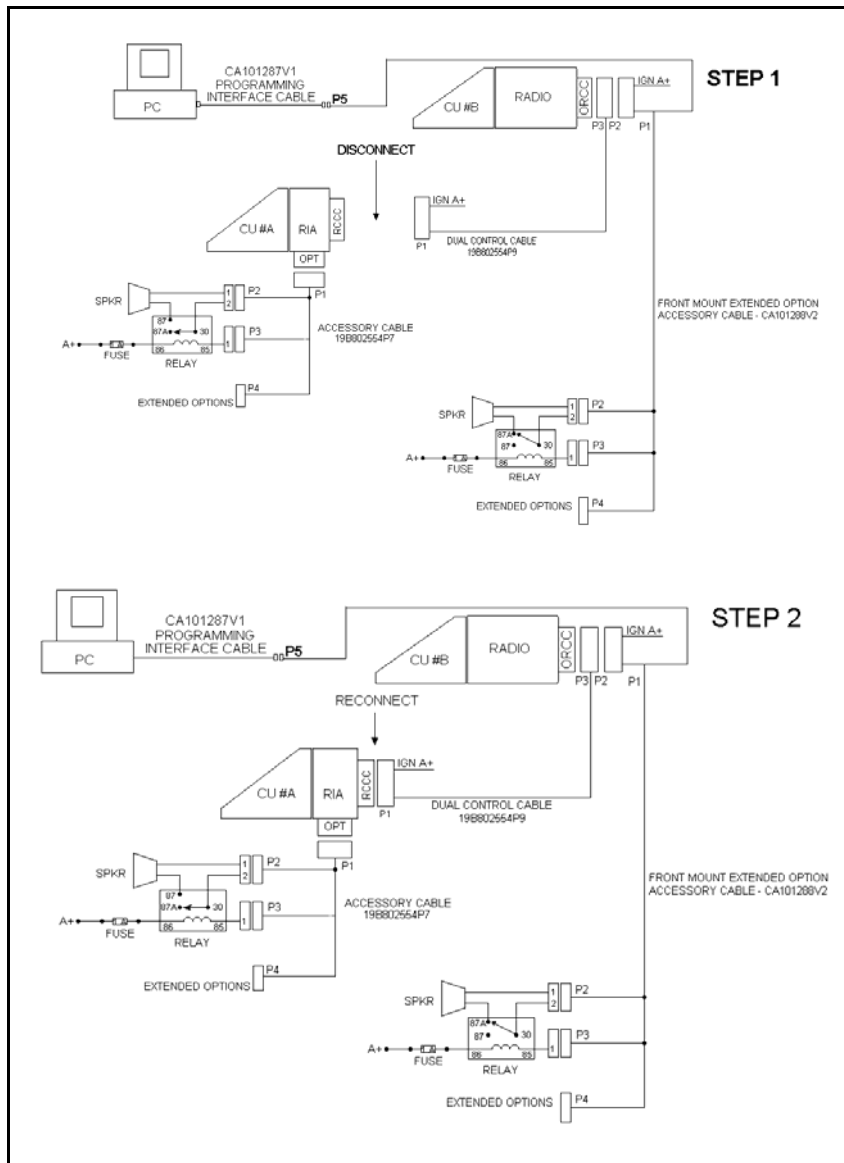

Figure 10-8: M7100^{IP} Field Programming – Dual Control Unit Front/Remote Mount Configuration
Refer to Figure 10-8 for the Parallel Audio Setup Installation. Perform the following steps to install parallel audio speakers:
1. Connect the M7100^{IP} Front Mount Radio and the Auxiliary Control Unit per the ProGrammer setup as shown in Figure 10-8, STEP 1 with Control Unit A disconnected. Program the radio with the control configurations shown in Step 1 of “Pre-Installation Programming Procedure with ProGrammer – Front Mount” and adjust as necessary for the specific application.
2. Connect the Front Mount Radio and Auxiliary Control Unit per ProGrammer setup as shown in Figure 10-8, STEP 2 with Control Unit A reconnected. Program the configurations shown in Step 2 of “Pre-Installation Programming Procedure with ProGrammer – Front Mount” and adjust as necessary for the specific application.